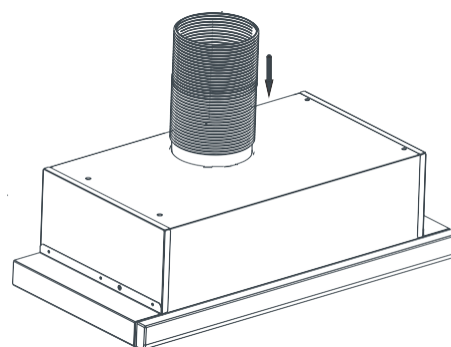

Fig. 13
2. Install the other end of the pipe to the flue hole on the wall (Fig. 13).